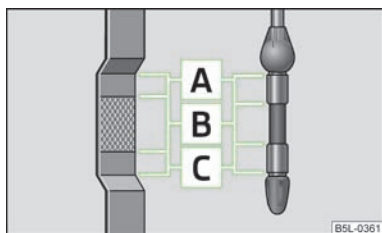

Fig. 144
The dipstick indicates the level of oil in the engine » Fig. 144.
- Oil **must** be refilled » Fig. 144. It is sufficient, once this is done, to keep the oil level within range .